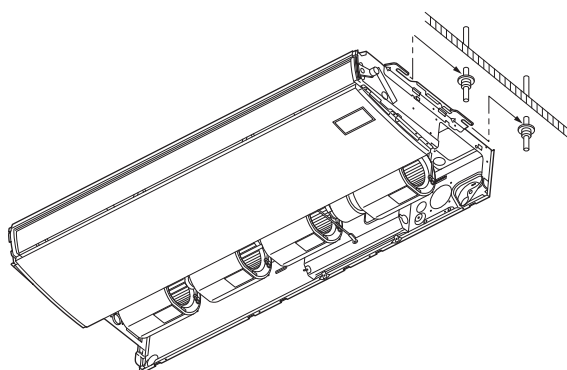

Fig. 3-140
- b) Lift the indoor unit, and place it on the washers through the notches, in order to fix it in place. (Fig. 3-140)